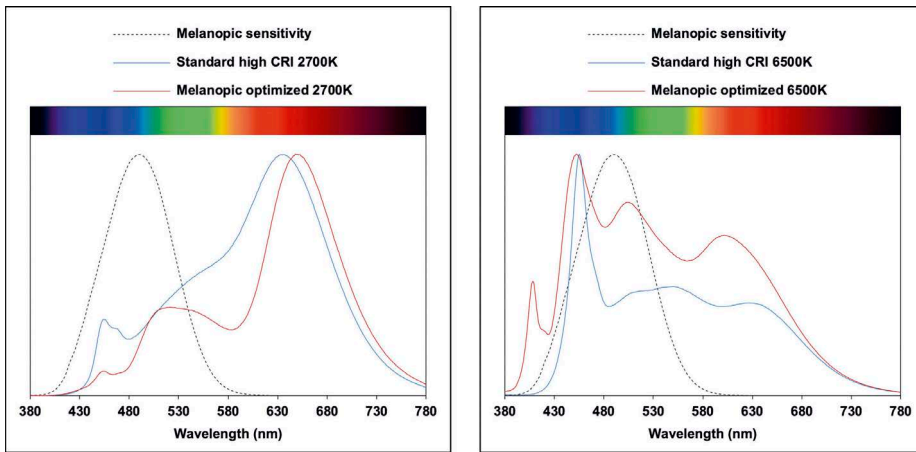

Figure 11: The comparison of melanopic optimized and standard high CRI spectra
Based on this principle, Figure 11 indicates the spectral comparisons with an optimizing melanopic solution for matching with circadian rhythm, normalized to 1. Relatively, the weighting in the sensitivity is less for the “Melanopic optimized 2700 K” compared to the standard high CRI 2700 K, and is more for the “Melanopic optimized 6500 K” compared to the standard high CRI 6500 K. according to the calculation of Equation (2), the  $M_{2700K}(S)$  is 71% weighting compared to high CRI 2700 K, and the  $M_{6500K}(S)$  is 163% than the high CRI 6500 K.
During the test, it is found that to achieve accurate chromaticity coordinates, either along the Planckian locus or Daylight locus, an accurate forward current is necessary. In the test, interval 100 K CCT from 2000–10 000 K means 1% accuracy tuning on each element, calculating to forward current which is indicated in **Figure 11**, for element G. The current accuracy should achieve 0.32 mA, even if the electrical tuning is generally better than chemical and optical methods, it is still not sure if an electrical system can reach such accuracy, especially when considering the feasibility of economy for commercial use.